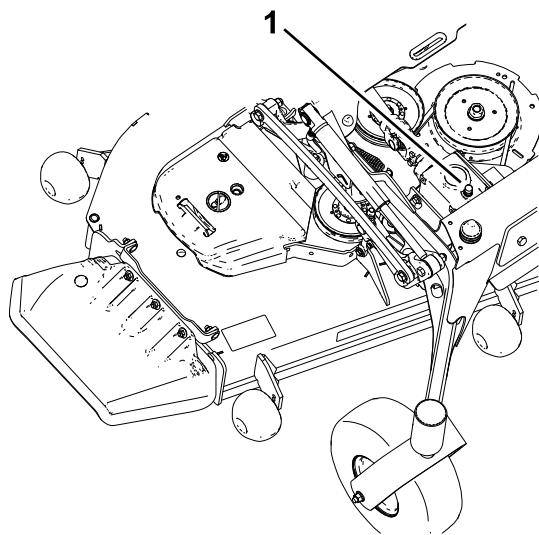

Figure 83
5. Remove the dipstick/fill plug from the top of the gearbox and ensure that the lubricant is between the marks on the dipstick (Figure 83).